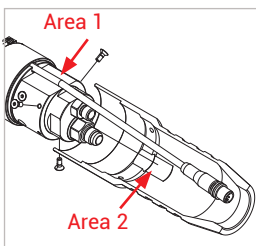

Figure 4
**Attention:** Align the protective sleeve on the fueling nozzles with data interface so that the marked area 1 and the marked area 2 are aligned with each other (Figure 4). Avoid jamming the data cable (Pos. 7) between the protective sleeve and the fueling nozzle. This can lead to communication errors.